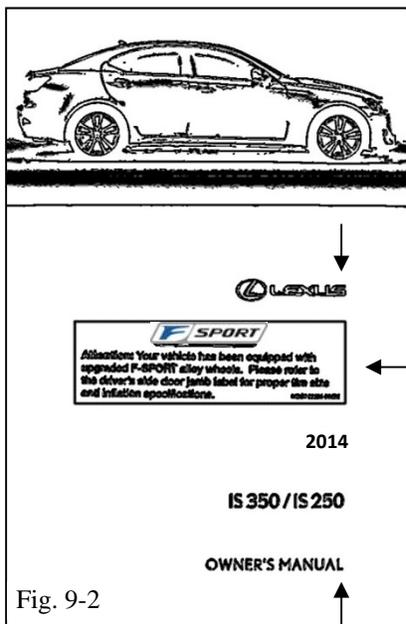

Fig. 9-2
(c) Install the Owner's Manual Label (MDC P/N **00602-35062**) onto the front cover of the owner's manual (Fig. 9-2).
**NOTE:** Be sure **NOT** to cover any existing text or information. Line up the right side of the label with the text stack as shown by the arrows in Fig. 9-2. Center the label vertically between LEXUS & the year text as shown.